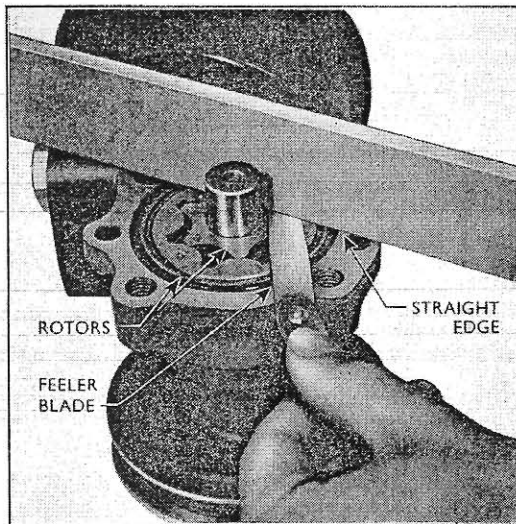

Fig. 14
6. Using a straight edge and feeler gauges as shown in Fig. 14 check the clearance between the end face of the rotor assembly and the pump cover mounting face of the pump body. The pump body and rotor assembly should be renewed as necessary if the clearance exceeds .0025 ins. (.06 mm.).